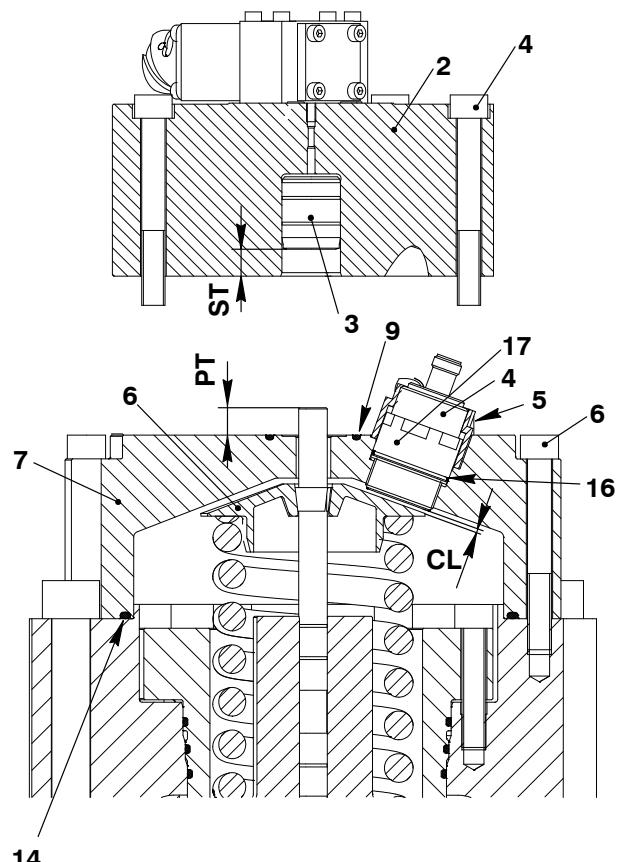

Fig. 8
- 2) Make sure the O-rings (3) are in a satisfactory condition.
- 3) Apply oil to the O-rings (3).
- 4) Replace the gasket (13).
- 5) Put the valve assembly: bush (1), valve guide (11), spring (6), spring carrier (8), valve spindle (9) into the housing (12).
- 6) Replace the O-rings (14) and (15).
- 7) Replace the O-ring (14, Fig. 8).
- 8) Apply Never Seez NSBT to the six bolts M10x80 (6).
- 9) Install the cover (7) the the cover (12) with the six bolts M10x80 (6).
- 10) Torque the six bolts (6) to 40 Nm.
- 11) Measure the distance PT of the valve spindle to the cover (7).
- 12) Clean the piston hole in the cover (2).
- 13) Apply lube oil to the piston (3).
- 14) Put the piston (3) fully into the hole.